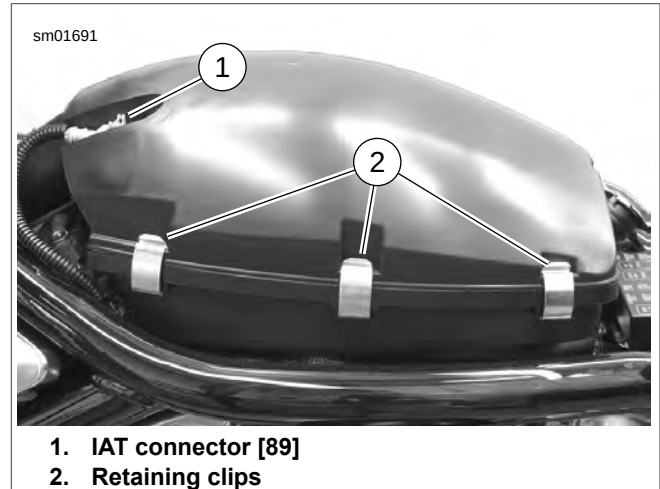

Figure 1-9. Air Filter Top
4. See Figure 1-9. Remove IAT connector (1) by pushing down on bail wire to unlock. Air box top is retained by eight clips (2), three per side, one at the rear and one in the front under the snorkel. Disconnect clips and remove air box top.
13. See Figure 1-9. Attach IAT connector.